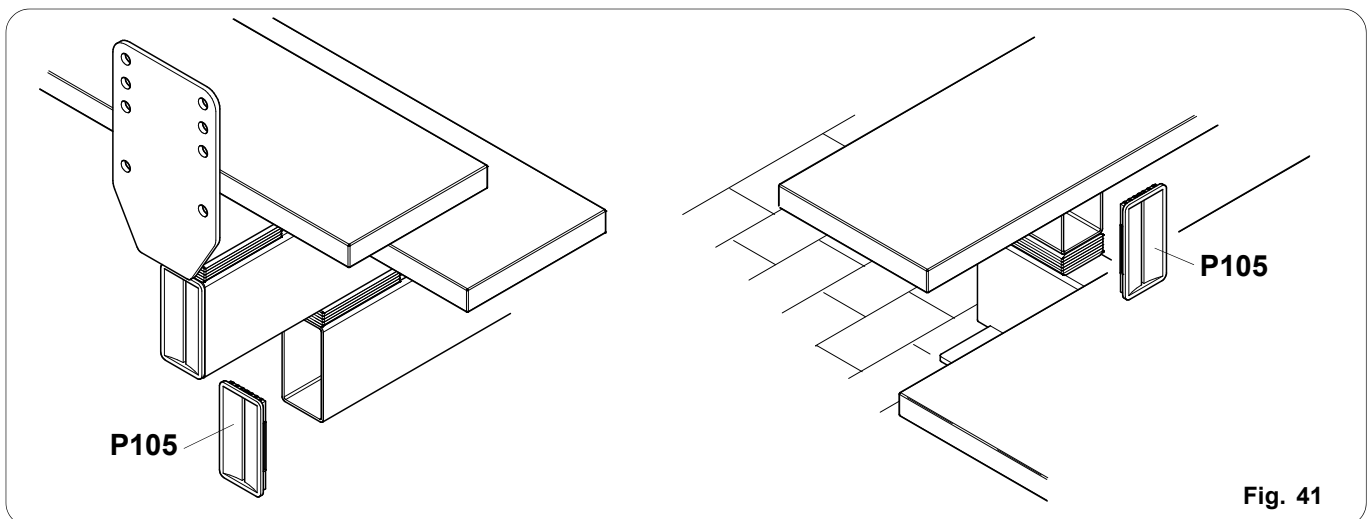

Fig. 41
- Mount the **P105** plugs both in the front and back side of the step support modules (fig. 41)